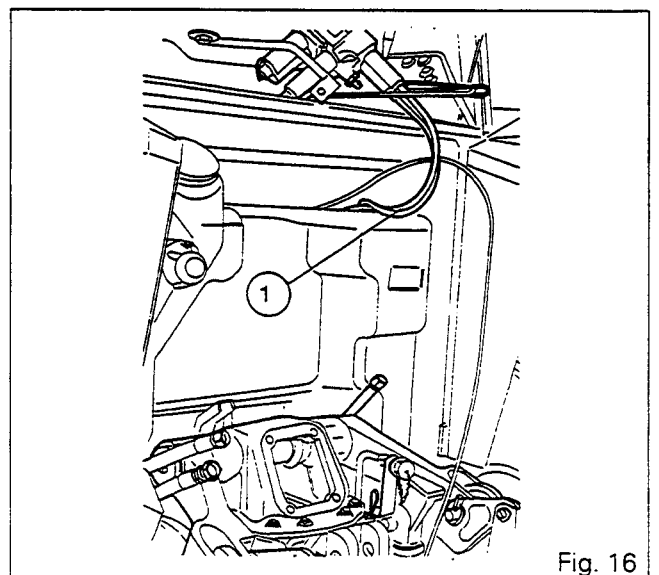

Fig. 16
67. Refit the support and spool valve assembly (1) (Fig. 16).